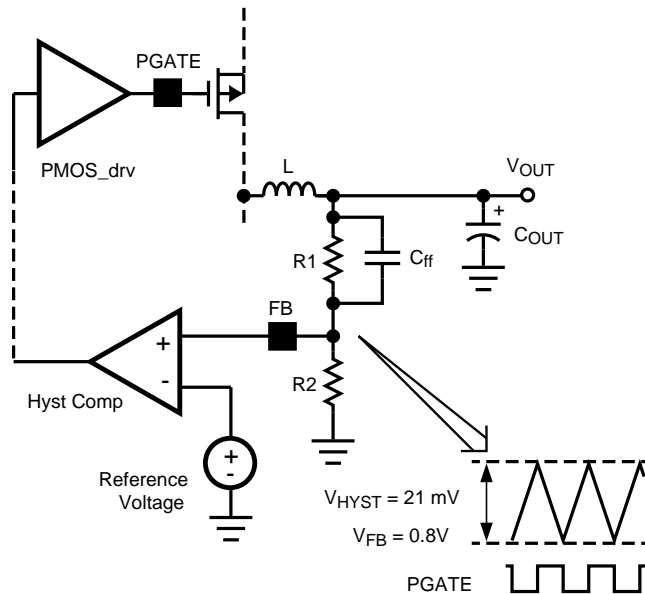

Figure 13. Hysteretic Window
The output voltage is programmed using a resistor divider between V_{OUT} and GND as shown in Figure 13. The feedback resistors can be calculated as follows:
The operating frequency and output ripple voltage can also be significantly influenced using a speed up capacitor, C_{ff} , as shown in Figure 13. C_{ff} is connected in parallel with the high side feedback resistor, R1. The output ripple causes a current to be sourced or sunk through this capacitor. This current is essentially a square wave. Since the input to the feedback pin (FB) is a high impedance node, the bulk of the current flows through R2. This superimposes a square wave ripple voltage on the FB node. The end result is a reduction in output ripple and an increase in operating frequency. When adding C_{ff} , calculate the formula above with $\alpha = 1$. The value of C_{ff} depends on the desired operating frequency and the value of R2. A good starting point is 1nF ceramic at 100kHz decreasing linearly with increased operating frequency. Also note that as the output voltage is programmed below 1.6V, the effect of C_{ff} will decrease significantly.